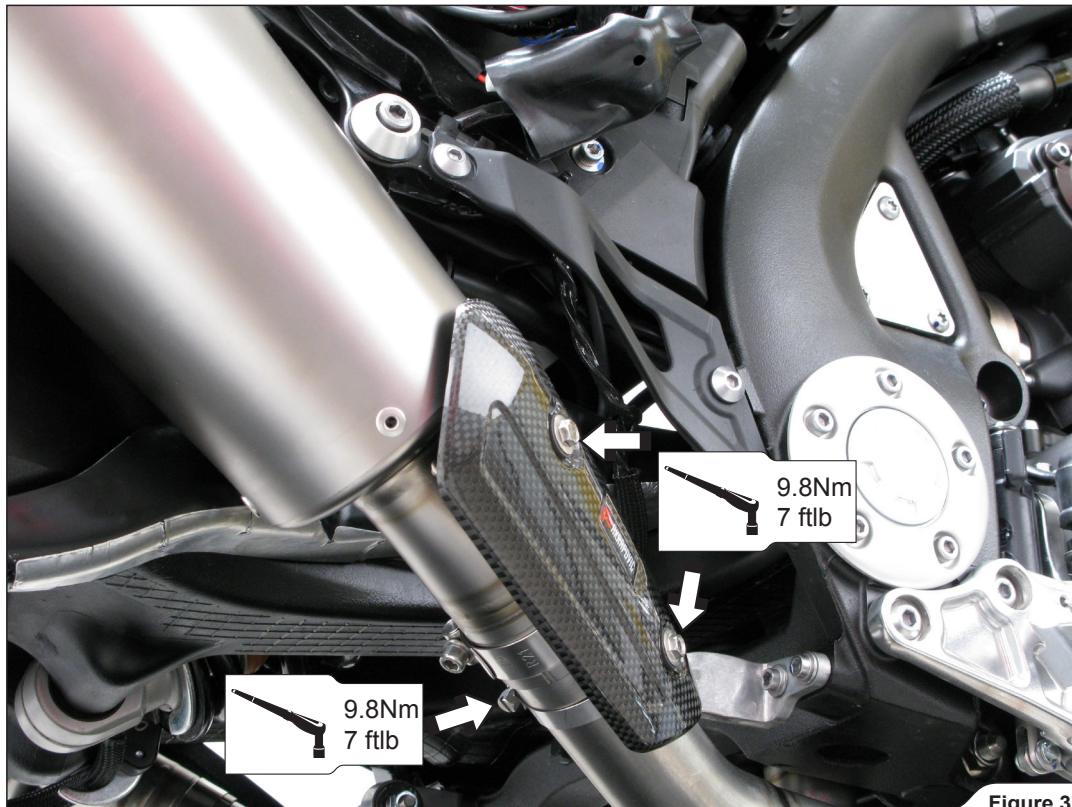

Figure 37
12. For **BOTH SLIP - ON** sistem: tighten the heat shield metal clamp and the heat shield's bolts (Figure 37). Perform the process on both sides of the motorcycle.